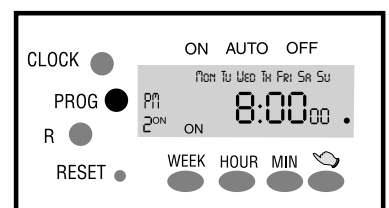

Figure 9
- 2.9 Press **PROG** again to enter program mode for second "ON/OFF" program. **The display should now show "2 ON"** (See Figure 9).